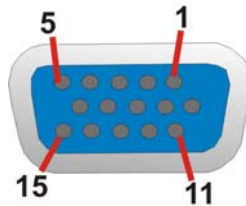

Figure 3-34: VGA Connector
- CN Pinouts: See Figure 3-34 and Table 3-37